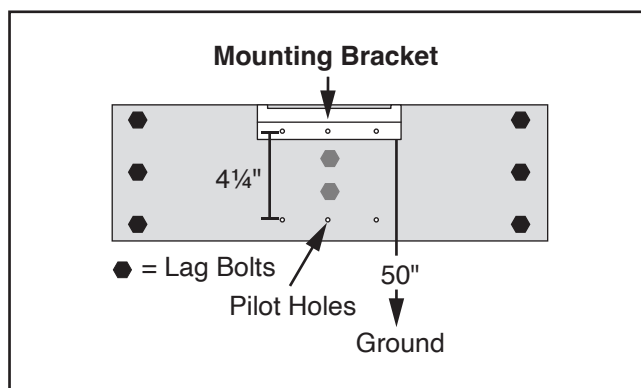

Figure 8. Mounting bracket secured to top of mounting board.
2. Secure wall mounting bracket to mounting board with (3) $\frac{5}{16}$ " x 2" lag bolts and (3) $\frac{5}{16}$ " flat washers, aligning bracket with top of board (see **Figure 8**).
3. Insert top lip of impeller housing bracket into mounting bracket, use a pencil to mark holes for impeller housing bracket, then drill pilot holes (see **Figure 8**).